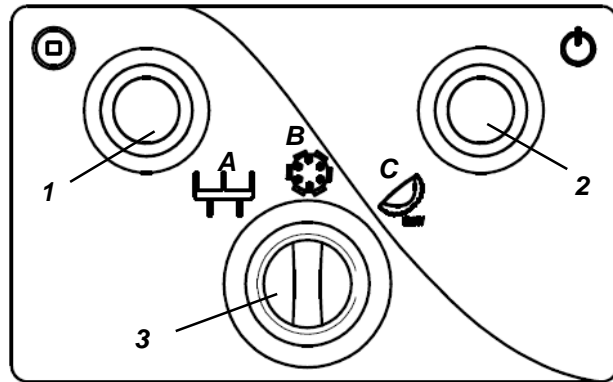

Fig. 3.1.1
3. Start the machine in mixer mode by means of the button "2" (Figure 3.1.1)
1. Start the machine in extruder mode through button 1 (Fig. 3.1.1) and draw roughly 50 g of product to clean the extrusion channel
3. Start the machine in extruder mode through button 1 (Fig. 3.1.1)
Connect the plug to the mains and press the start button (2 Fig. 3.1.1). The machine gets enable din extruding mode; ensure the spiral direction of rotation is counter-clockwise.
5.3 - Checking the effectiveness of the stop button (fig. 3.1.1)
When machine is connected to the mains and tools are in movement, press the shut down button (4 Fig. 3.1.1). The machine must shut down.
5.4 - Machine start up (fig. 3.1.1)
After having properly connected the machine to the mains, push the mixing button (2 Fig. 3.1.1) or push the extruding button (1 or 3 Fig. 3.1.1), to have the machine started up.
5.5 - Machine shut down (fig. 3.1.1)
To shut down the machine, push the shut down button, "4" Fig. 3.1.1.